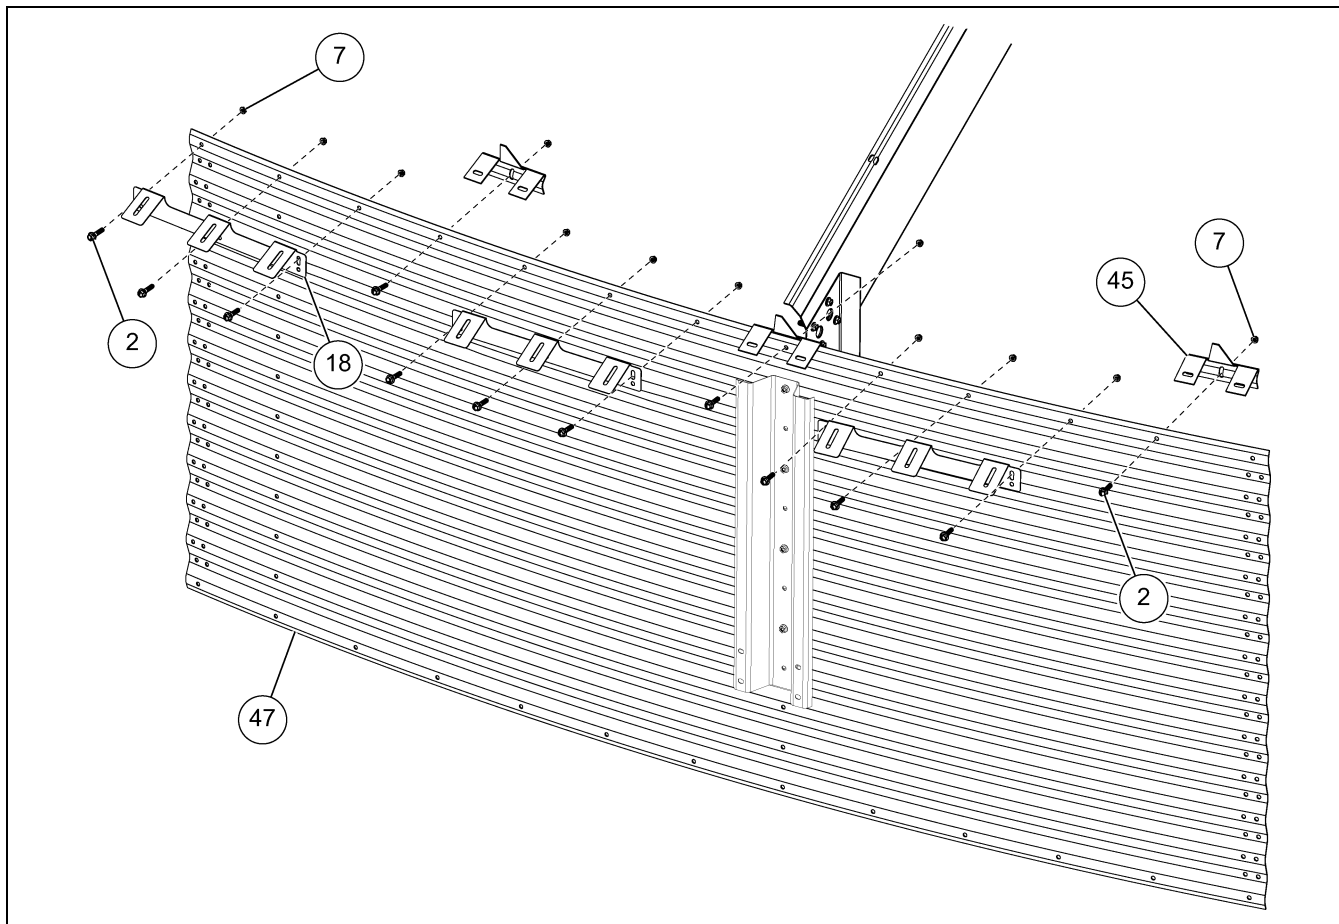

Figure 4E *Installing the Eave Clip and Eave Angle to the Sidewall (4.00")*
NOTE: Make sure to install the intermediate eave angle (18) to the outside of the sidewall sheet (47) for 4.00" bins. (See Figure 4E on Page 18.)
3. Repeat this process to install the remaining eave clips (44 or 45) and intermediate eave angles (18).